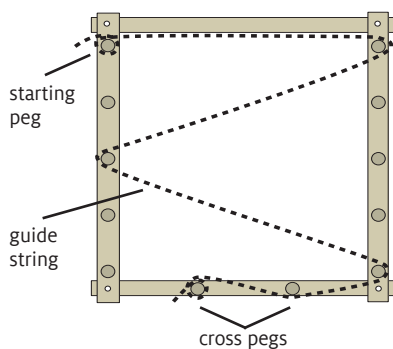

FIGURE 12: SET UP THE GUIDE STRING
**2.** Cut the guide string a few inches longer than your warp length. Tie one end around the left cross peg, as shown in Figure 12. Pass the guide string under the right cross peg, then outside the next closest peg.